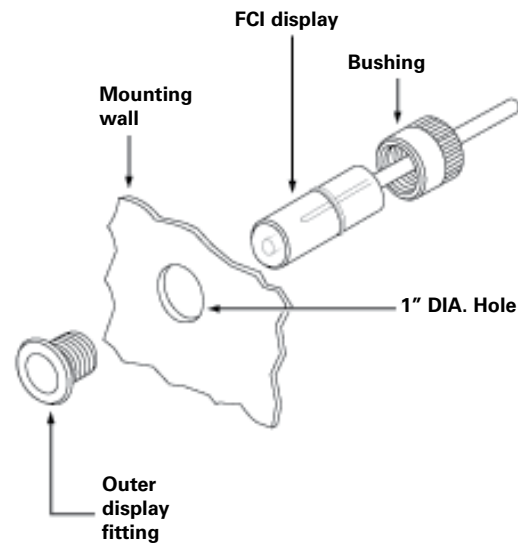

Figure 6. Small remote display installation diagram
1. **Punch or drill** one 1" diameter hole as shown in Figure 6. Hole rim may need to be treated for corrosion resistance. Consult enclosure manufacturer for recommendation.